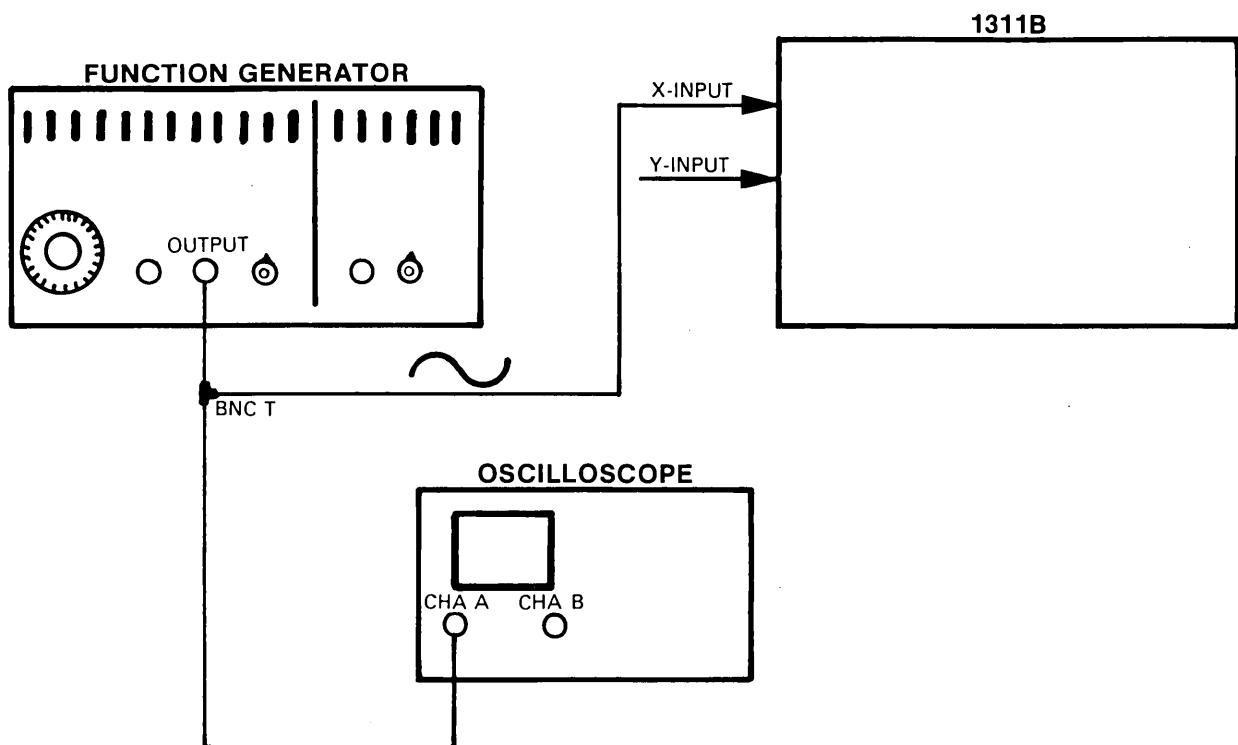

Figure 4-2. X-deflection Factor Test Setup
- a. Connect equipment as shown in figure 4-2.